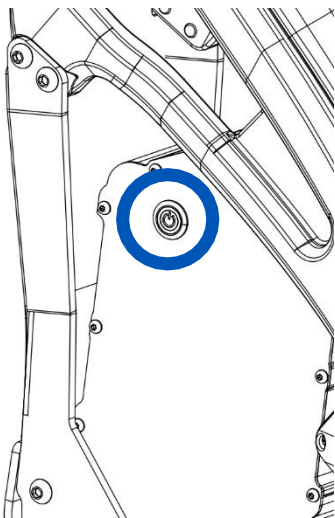

Fig. 11
- 2- Activate the battery by pressing the button located on the top left of the battery and wait for the indicator to turn green (Fig. 11).